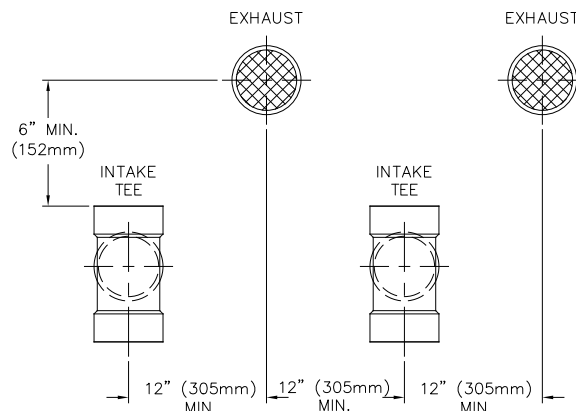

Figure 3.1: Vent Pipe Spacing for Multiple Series PFC™ Boilers
Maximize the horizontal and vertical spacing to the greatest extent possible as shown in Figure 3.1. Take into account prevailing on-site wind conditions during planning as well.
- d. For multiple boiler installations, the minimum horizontal distance between the inlet of one boiler to the exhaust of an adjacent boiler is 12" edge-to-edge. In addition, the minimum vertical distance between the exhaust and air inlet is 6". See Figure 3.1 for an illustration.
The values shown in Figure 3.1 are the minimum allowable spacing for intake and exhaust piping. Steps should be taken in all cases to locate the air intake and exhaust points with the maximum allowable spacing the installation space can accommodate.